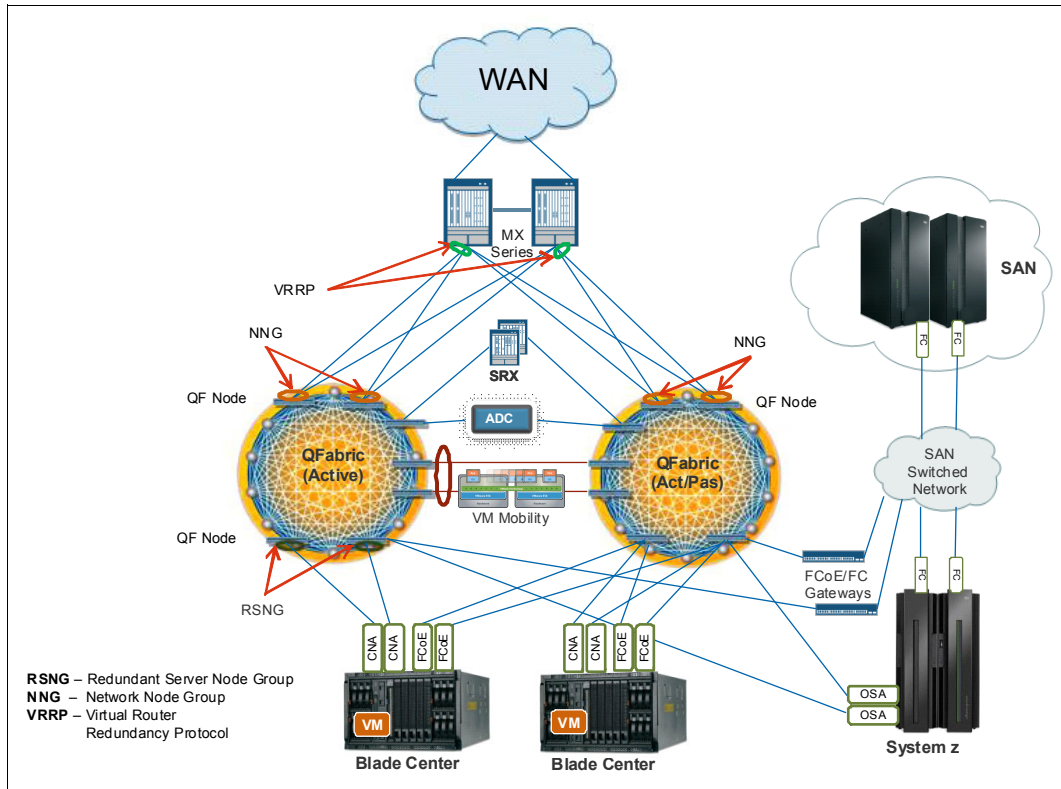

Figure 23 HA, resilient, flexible intra-data center scenario
The intra-DC scenario (shown in Figure 23 on page 44), represents a highly available (HA), redundant and resilient network. It is deployed to satisfy business continuity and easy recovery requirements through the use of QFabric and other high performance, highly reliable Juniper networking components: